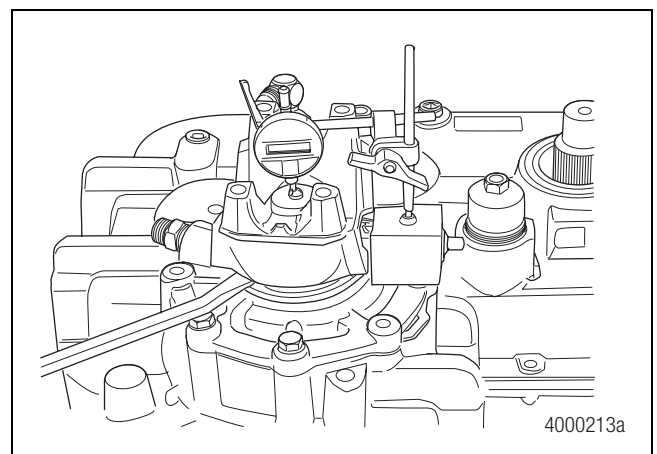

Figure 6.26
1. Set up a dial indicator to check input shaft bearing end play. Center the dial indicator over the shaft using a ball bearing for accuracy. Figure 6.26.